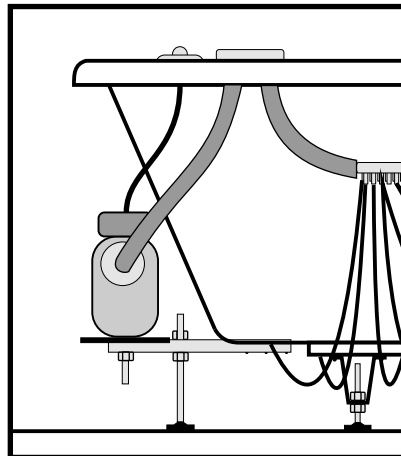

Fig. 2, Air-Spa with compressor on bracket
2. If the air-spa compressor has been fitted to the bath with a bracket as in figure 2, then sections 3 to 5 and section 7 can be ignored.
6. The system is now ready for electrical connection. ***This should be entrusted only to a qualified electrical engineer and be carried out in accordance with I.E.E. regulations, 15th Edition.*** The compressor motor is a single phase 240v 50Hz motor with a full load current of approx. 3 amps dependant on operating conditions. The unit is a double insulated plastic enclosure with no external metal parts and as such, has no need for facility for an earth. Connection protection, therefore, must be for short circuit or overcurrent and should take the form of an MCB type B(2) 5 amp to BS3871 or a cartridge fuse, 5 amp, to BS1362. The supply line should be installed on a switched 13 amp fused spur, fitted outside the room where the spa bath is installed. The isolating switch should preferably be fitted at a level where young children cannot reach it.